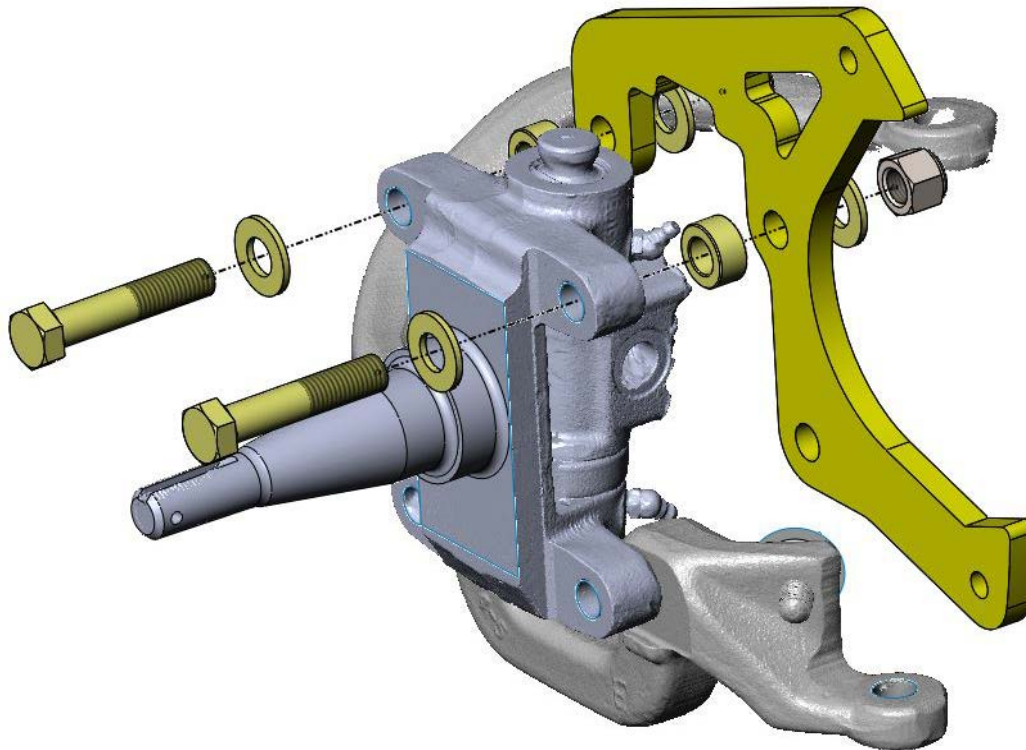

Figure 1 – Caliper Mounting Bracket Being Installed
4. Position the Caliper Mounting Bracket against the spindle. The top two mounting holes will require the use of 2 spacers that measure 0.875" OD x 0.500" ID x 0.430" Length. Insert these bushings between the bracket and the spindle and assemble using the 1/2"-20 x 2.500" Grade 8 Hex Head Bolts and 1/2"-20 Nyloc Lock Nuts. A washer is provided for the head of the bolt along with the nut. These will be torqued at a later step. Figure 1 on the next page shows the proper assembly.